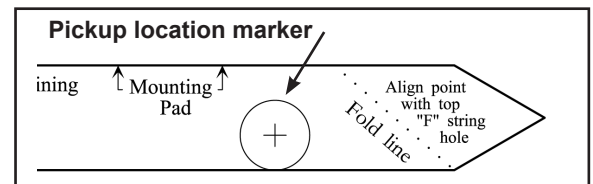

Figure 3 – Template
1. Find the paper pickup locating template. Poke an awl or a nail through the four circles that have a cross through them (*see figure 3*).